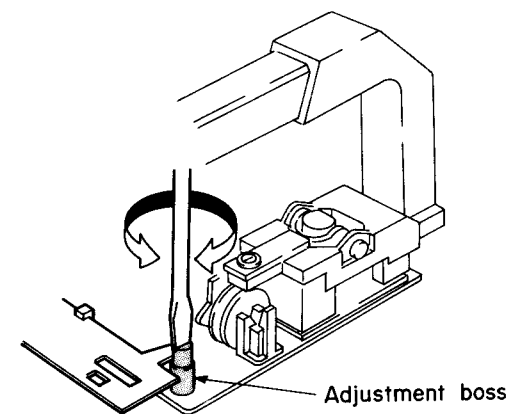

Fig. 7
- 1) Place AIWA test record (ATR-003) on the turntable, press the START/CUT button and turn the adjustment boss to adjust so that the auto-in count is 22 ~ 28. (Refer to Fig. 7)